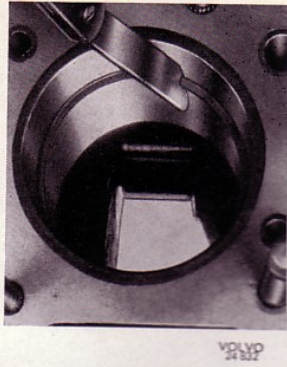

Fig. 33 Measuring the piston ring gap
2. Measure the ring gap with a feeler gauge, see Fig. 33. The gap should be 0.40–0.55 mm (0.016–0.022"). If necessary, the gap can be increased with the help of a special file.